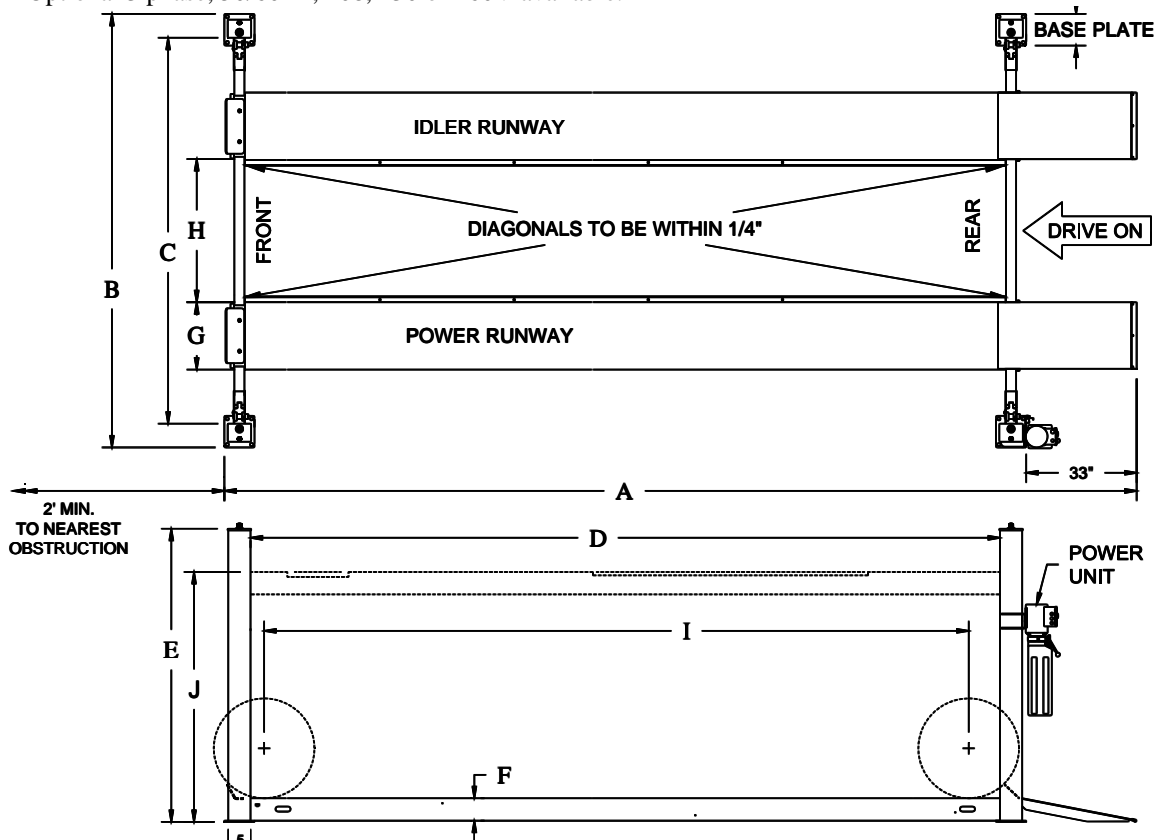
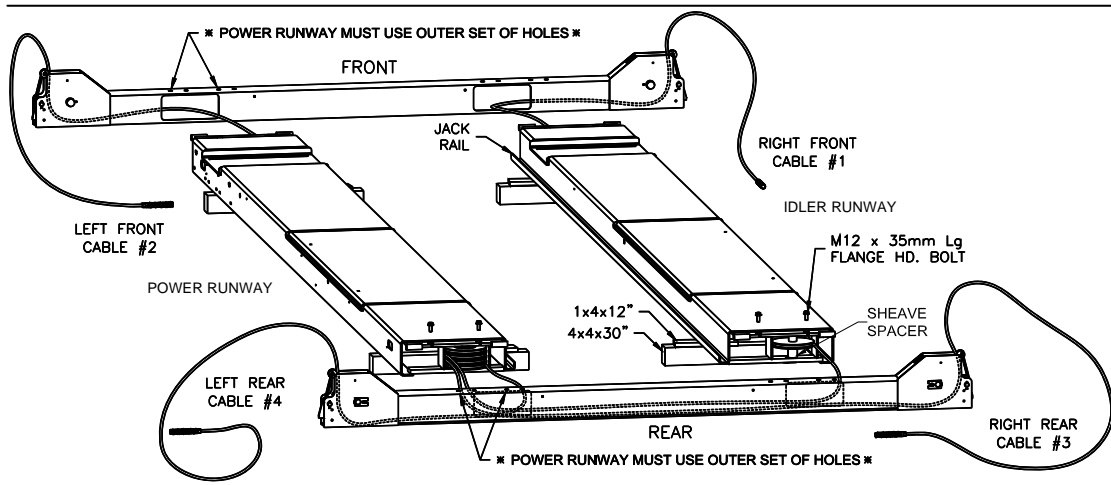

Fig 1 – General Specifications and Service Bay Layout
Fig 4 – Runway Layout
- 1) Lay out the service bay according to the architect's plans or owners instructions (**see Fig 1**). Be certain that the proper conditions exist, see page 3.
- 3) Position runways on blocking (*see Fig 4*) per layout lines established in step 1. Use four 30" long 4x4's spanning the width of the runway and four 12" long 1x4's to shim up the jack-rail
side of the runway. Cable #1, #3, & #4 should be extending out from the rear of the power runway and cable #2 from the front of the power runway, **Fig 4**.
- 4) Position the front and rear cross beams, **Fig 4**. (Both cross beams are identical.)
- 5) Reach in through either of the access holes in the cross beam tube and pull out the roll of 4mm dia. plastic air line connected to the air cylinder at the end of the cross beam. Repeat for opposite access hole and position the cross beam near the end of the runways as in **Fig 4**.
- 13) Attach both cross beams to the runways (**Fig. 4**) with M12 x 35mm lg. flange head bolts (two at each end of each runway) being careful not to pinch the air line. Leave the air lines hanging out the bottom of the cross beam access holes at this time, they will be fed in through the runway after the lift is raised. **The outermost power runway slots should be in line with the outermost holes in the top of the cross beam, see Fig. 4.** The idler runway can be installed using the outer or inner sets of cross beam holes, see "Width Between Runways" dimension in Fig. 1. Do not torque bolts yet.